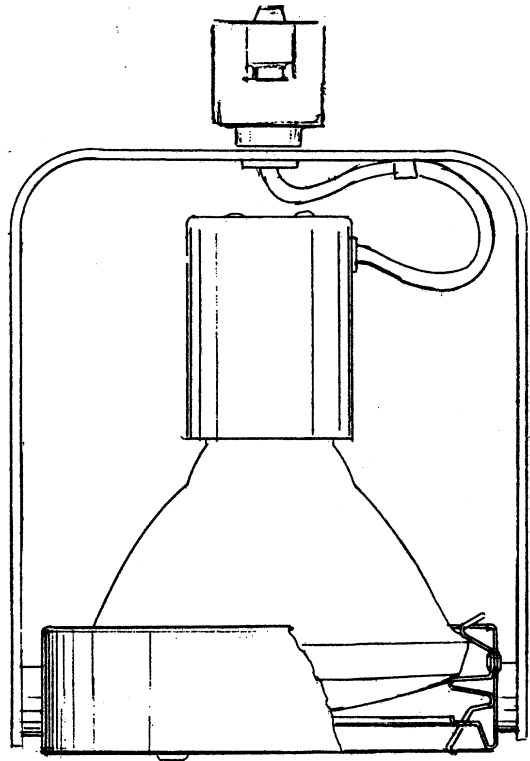

FIG. 6
3. Insert LAMP into RING until (3) LAMP SPRINGS engage fully (Fig. 6).